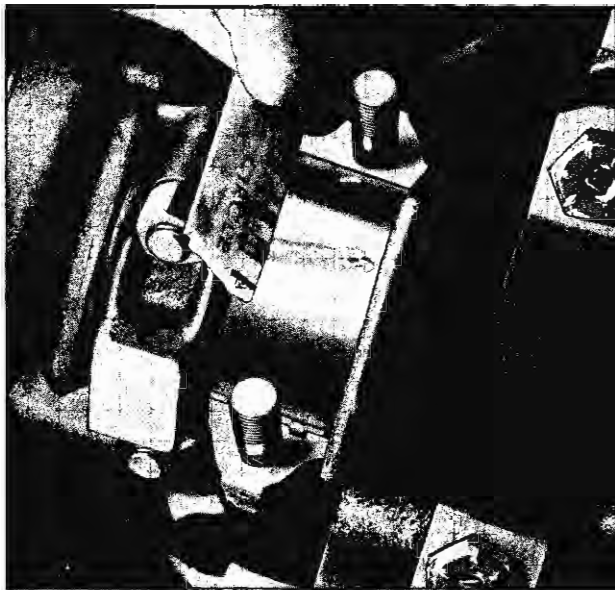

Fig. 178—Measuring Plastigage
- Remove the bearing cap and without removing the Plastigage, check its width at the widest point with the Plastigage scale (fig. 178).